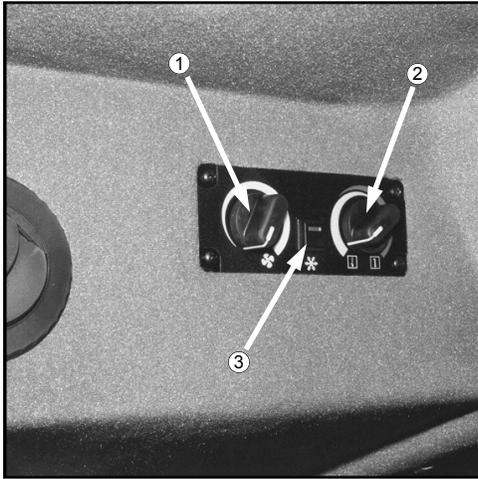

FIG 5.68
ADJUSTING FAN BLOWER SPEED - Fan blower speed is controlled by the left rotary dial on the cab climate control panel (fig. 5.68, item 1). The fan blower speed is a continuously variable adjustment. To increase fan speed, rotate fan blower dial clockwise. To reduce fan speed, rotate fan blower dial counterclockwise. To shut fan blower off, rotate fan blower dial all the way counterclockwise.
ADJUSTING TEMPERATURE SETTING - Forced air temperature adjustments are controlled by the right rotary dial on the cab climate control panel (fig. 5.68, item 2). Temperature control is a continuously variable adjustment. To increase forced air temperature, rotate temperature dial clockwise. To decrease forced air temperature, rotate temperature dial counterclockwise.
OPERATING AIR CONDITIONING - To activate the air conditioner, depress the air conditioning switch (fig. 5.68, item 3). Adjust fan speed and temperature accordingly.